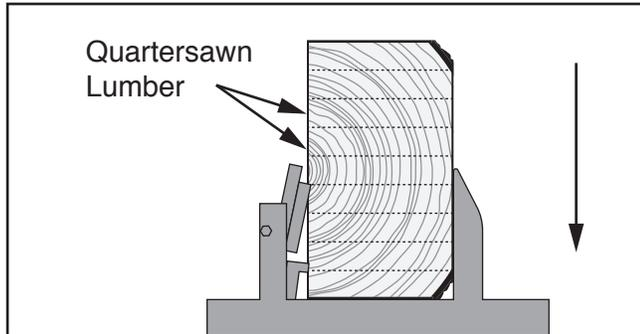

Figure 92. Quartersawn lumber to be cut from cant.
12. Cut from top to bottom until cant is fully used (see **Figure 92**). Adjust log supports and clamps throughout process to keep them below blade and to keep log secured.